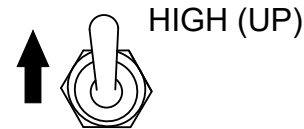

Figure 56. Engine Speed Switch (High Position)
2. Place the **Engine Speed switch** in the **HIGH** position (Figure 56).